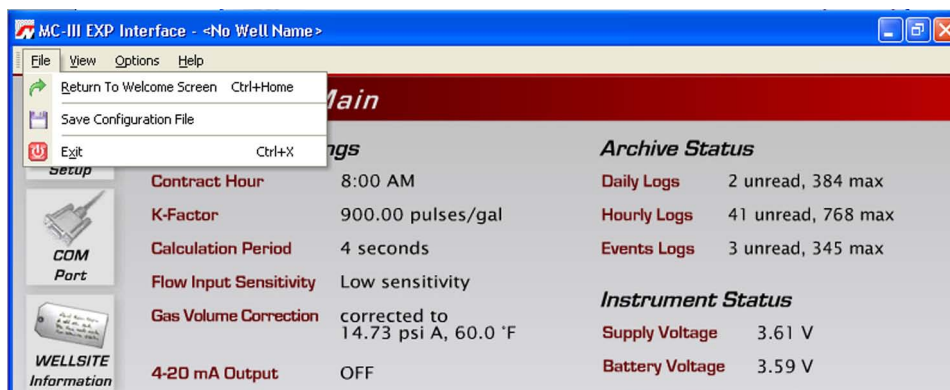

Figure 4.34—File dropdown menu allows user to save a configuration file
1. Select File>Save Configuration File (Figure 4.34). A "Save MC3 Configuration File" screen will appear, prompting the user to save the file to the computer hard drive. The default directory is C:\NuFlo log data\MC-III\